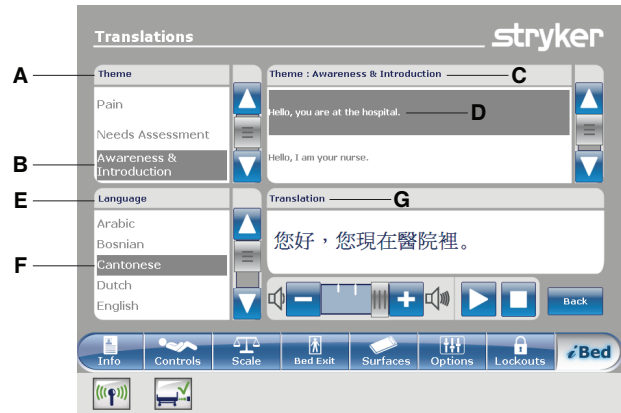

Figure 110: Translations
To select a theme, tap the up and down arrows to scroll through the available themes in the **Theme** area (A) (Figure 110 on page 99).
Note: The theme that is currently selected is highlighted in gray (B) (Figure 110 on page 99).
The clinical phrase related to the **Theme** appears in English in the **Theme:** area (C) (Figure 110 on page 99).
Note: The clinical phrase that is currently selected is highlighted in gray (D) (Figure 110 on page 99).
To select a language, tap the up and down arrows to scroll through the available languages in the **Language** area (E) (Figure 110 on page 99).
Note: The language that is currently selected is highlighted in gray (F) (Figure 110 on page 99).
Translation: A corresponding written translation of the clinical phrase from the **Themes:** area (C) appears in the **Translation** area (G) (Figure 110 on page 99).
- To return to the **iBed** main menu, tap **Back** (Figure 110 on page 99).